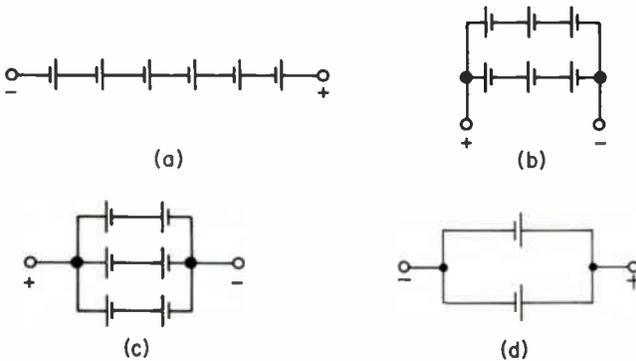

Fig. 43
3. Which circuit of Fig. 43 has an output of 4.5 V, assuming each cell has a rated voltage of 1.5 V?